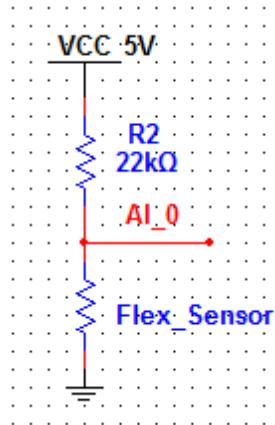

Figure 1
2. Write down the equation for the voltage at AI_0 for the circuit in Figure 1. Let R_{flex} be the resistance of the Flex Sensor.